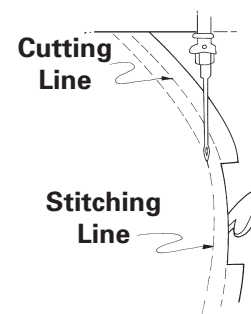

Fig. 22-4
2. Insert the fabric with the knife against the trimmed edge, and lower the needle into the fabric on the stitching line. (Fig. 22-4)